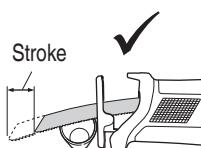

Fig. 15
- Select a saw blade of the most appropriate length. Ideally, the length protruding from the base of the saw blade after subtracting the stroke should be larger than the material (see Fig. 15 and Fig. 17).